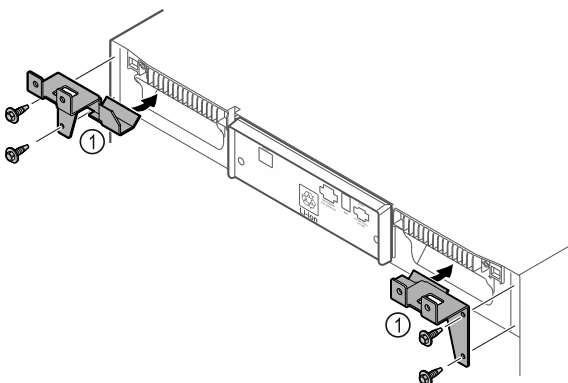

Fig. 10
- ▶ Fit the retaining parts Fig. 10 (1) to the device with self-tapping screws.